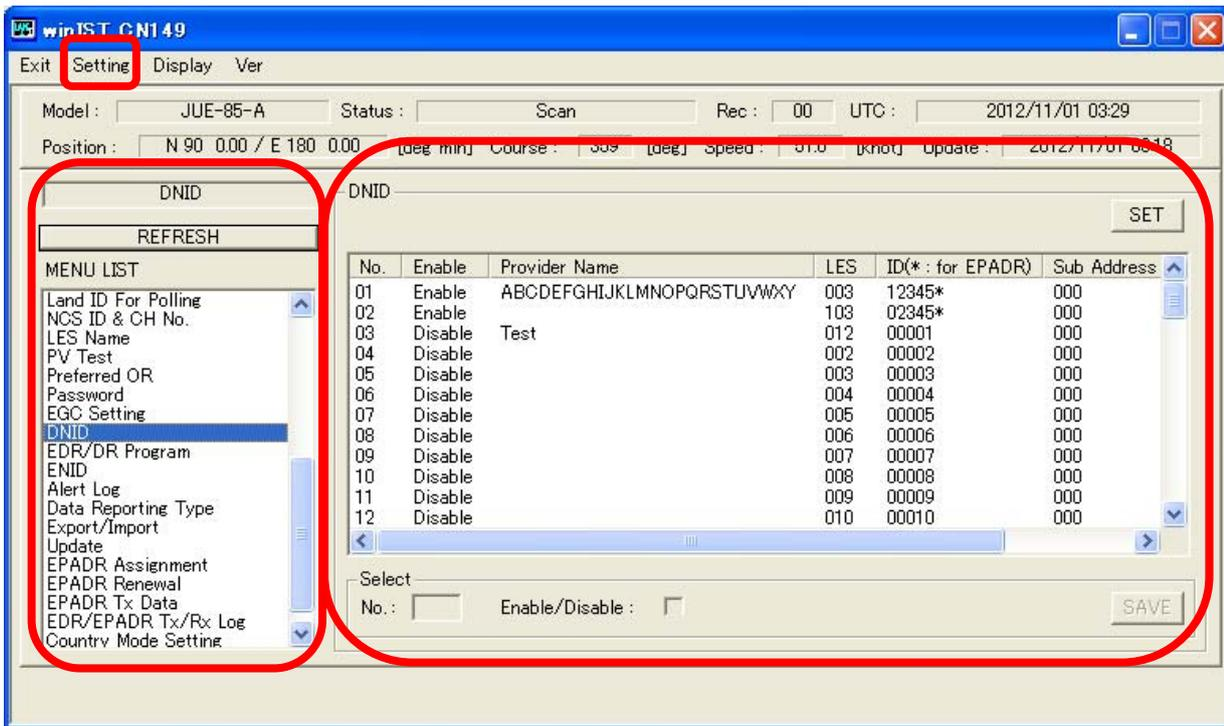

Fig. 4-27-1a DNID screen1
2. Operation except [Exit], [Display], and/or [Ver] is not possible while winIST is communicating with INMARSAT terminal(the function in the frame of Fig. 4-27-1a DNID screen1 cannot be operated.)
3. Operation except [Exit], [Display], and/or [Ver] is not possible while winIST is communicating with INMARSAT terminal(the function in the frame of Fig. 4-27-1a DNID screen1 cannot be operated.)